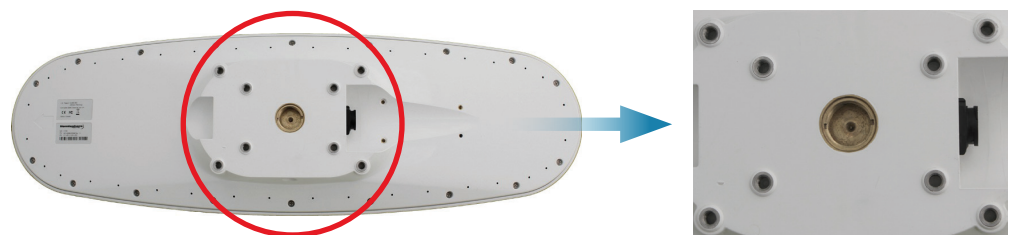

Figure 2-7: Flush mounting holes on bottom of Smart GPS compass
The bottom of the Smart GPS compass contains eight holes (two sets of four holes) for flush mounting the unit to a flat surface (Figure 2-7). The flat surface may be something you fabricate per your installation, an off-the-shelf item (such as a radar mounting plate), or an existing surface on your vessel.
2. Use the supplied template or photocopy the section of the Smart GPS compass that contains the eight mounting holes (see Figure 2-7) for use as a template to plan the mounting hole locations. Use the inner four holes or the outer four holes per your installation. If using a photocopy make sure it is scaled one-to-one with the mounting holes on the bottom of the Smart GPS compass.